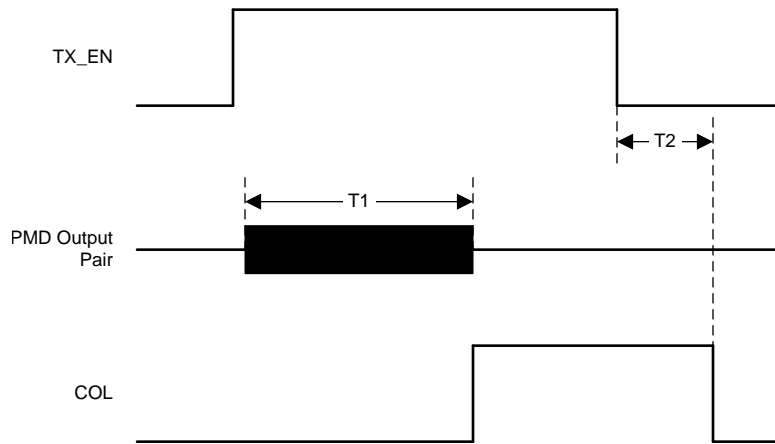

图 14. 10BASE-Te Jabber Timing
(1) Ensured by production test, characterization or design.
(2) See 图 14.